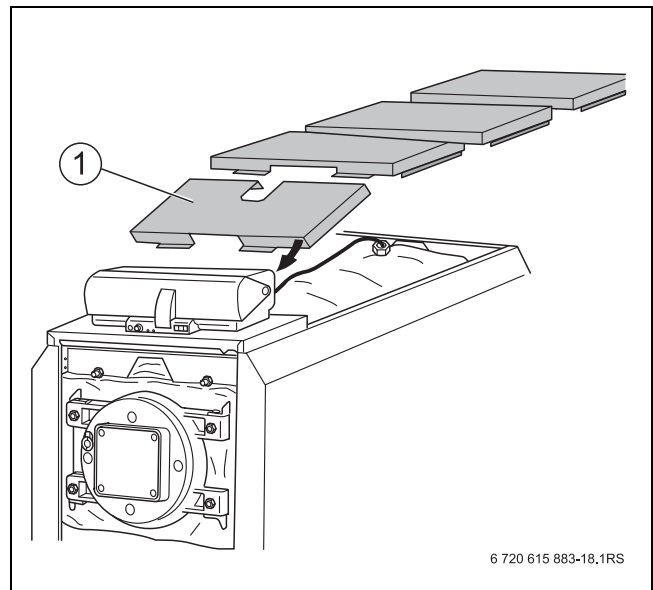

Fig. 22 Fitting the boiler cover sections - Example
**i** From 400 kW upwards, the second cover part is provided with a recess (→ Fig. 22). The rear parts are identical and are positioned with their fold forward.